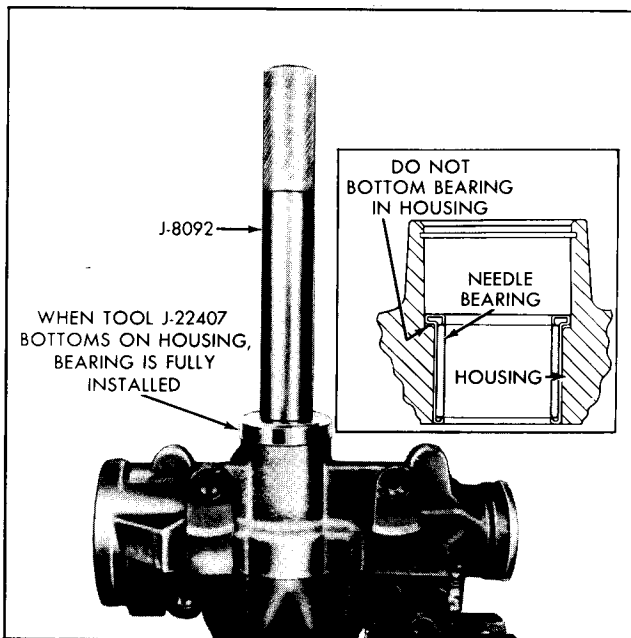

Figure 46—Installing Pitman Shaft Bearing
2. Install pitman shaft needle bearing on Bearing Installer J-22407, with shoulder on bearing against tool. Position bearing and tool in housing and press bearing into housing until bottom edge of bearing is flush with the inner housing bore surface (figure 46).